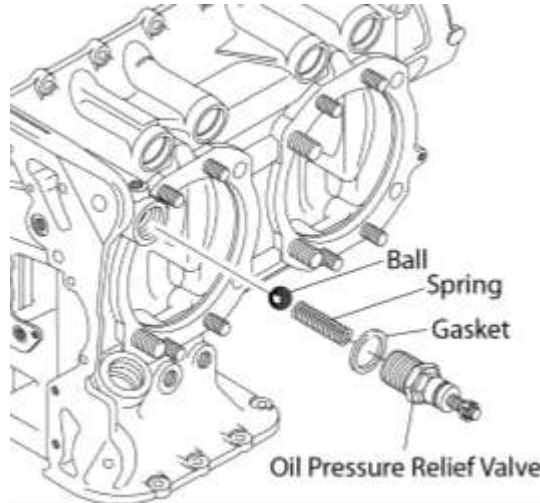

Figure 5
- B. Remove the oil pressure relief valve, spring, ball, and gasket (Figure 5) from the crankcase. Discard the gasket.
- A. Install a new gasket on the oil pressure relief valve (Figure 5).
- B. Install the correct spring in the oil pressure relief valve (Figure 5).